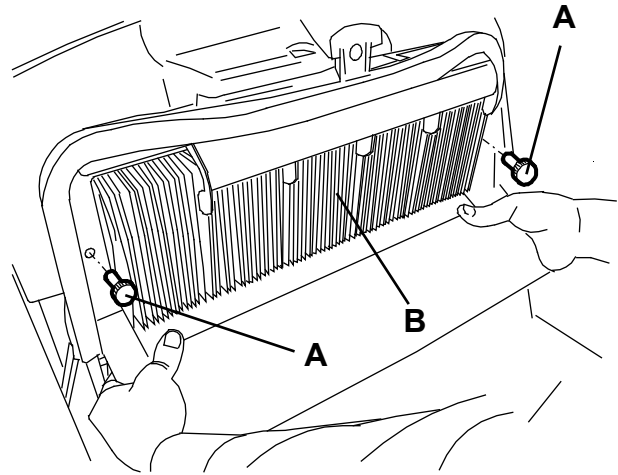
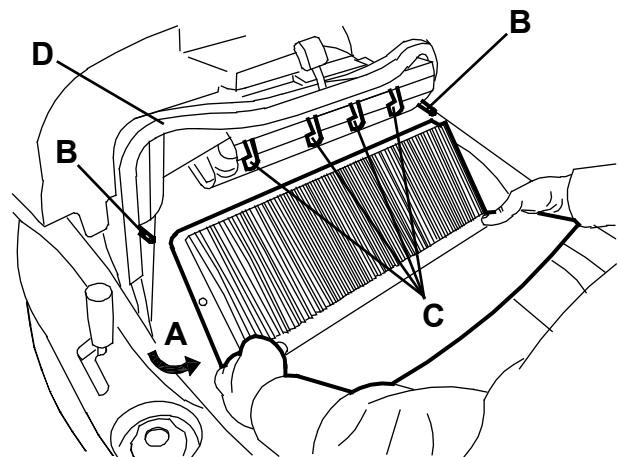
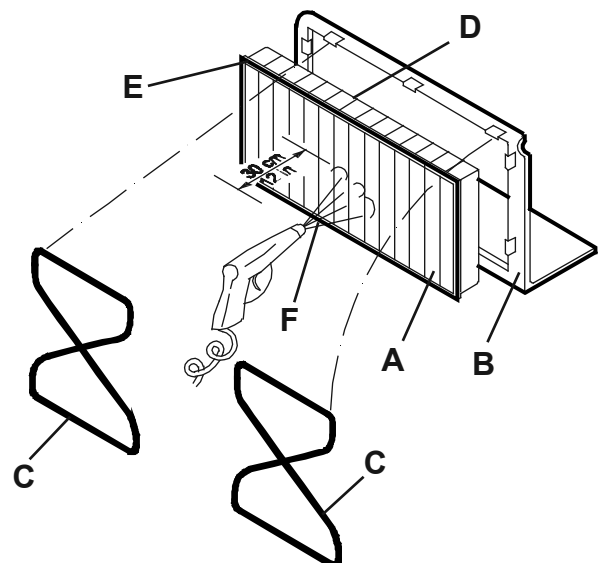

Figure 8
Figure 9
Figure 10
2. Turn the main switch (1) to "0".
3. Remove the hopper (9).
4. Loosen the knobs (A, Fig. 8).
5. Grasp the dust filter (B) as shown in the figure.
6. Remove the dust filter by turning it in the direction shown by the arrow (A, Fig. 9) to disengage it from the pins (B), then lower the filter to disengage it from the filter shaker combs (C).
7. Remove the filter (A, Fig. 10) from the frame (B) by disengaging the 2 rubber bands (C).
8. In an appropriate outdoor area, clean the filter by shaking it on a level and clean surface, tapping the side (D) opposite to the gasket (E).
- Complete the cleaning procedure by using compressed air (F) at maximum 6 Bar, blowing only from the side of the gasket (E), at a minimum distance of 30 cm.
9. Clean the bearing surface of the filter rubber gasket (E) and check it for integrity and sealing capabilities. If necessary, replace the filter.
10. Clean the bearing surface of the hopper gasket (D, Fig. 9) and check it for integrity and sealing capabilities. If necessary, replace it.
Assemble the filter with the gasket (E, Fig. 10) positioned as shown in the figure.